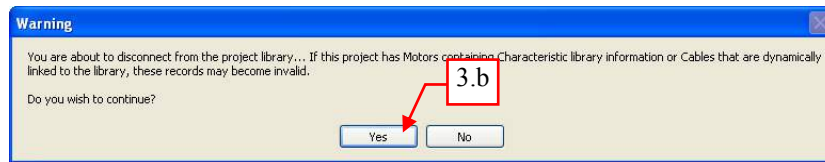

Fig. 2
- b. The “Warning” dialog box will be displayed. Click the “Yes” button. See Fig. 2.